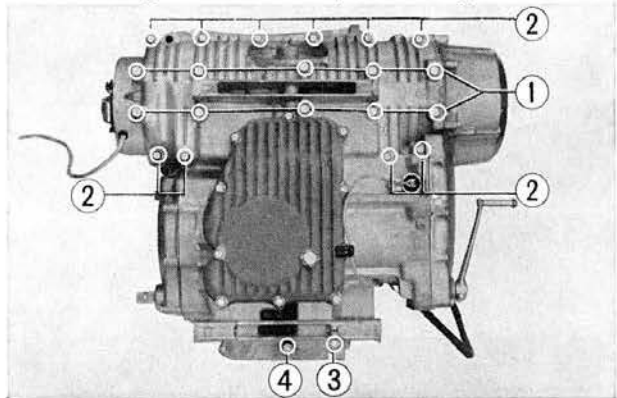

Fig. 3-74 ① 8mm bolts ③ 10mm nut
13. Unscrew the lower crankcase mounting bolts and separate the lower crankcase from the upper crankcase. (Fig. 3-74)